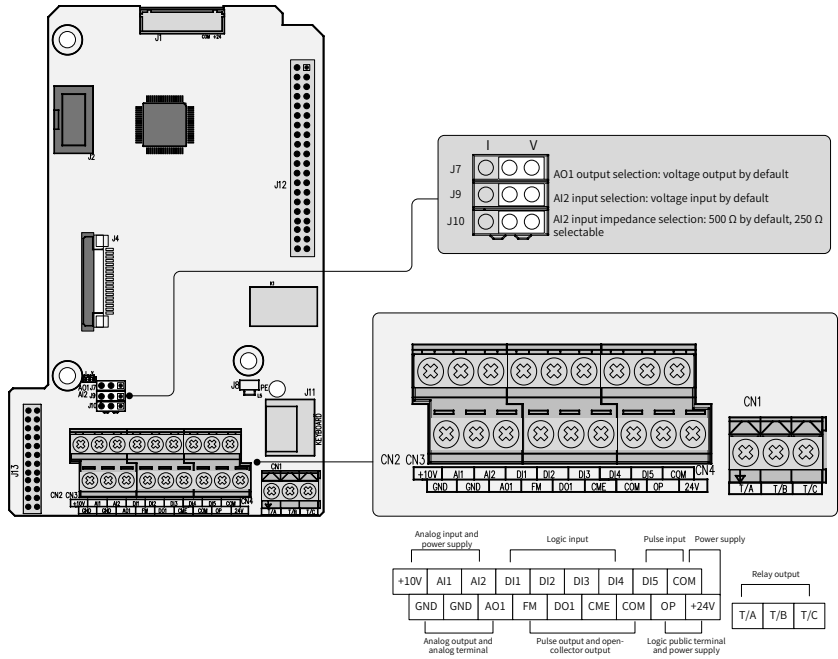

Figure 3-12 Control circuit terminal arrangement
- [3] For positions of jumpers J7, J9 and J10, see Figure 3-12.